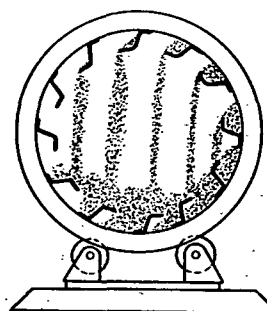

FIG. 1. SECTION OF ROTARY DRYER
1. Rotary drum dryers, (Fig. 1).